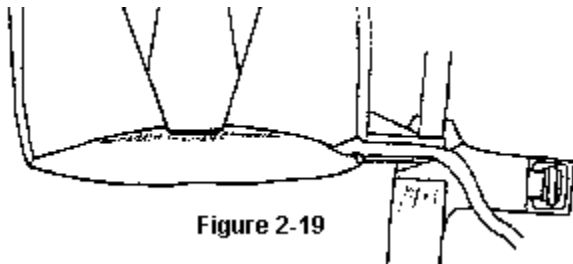

Figure 2-19
**Step 24** Close the pin protector flap as shown in *Figure 2-19*.